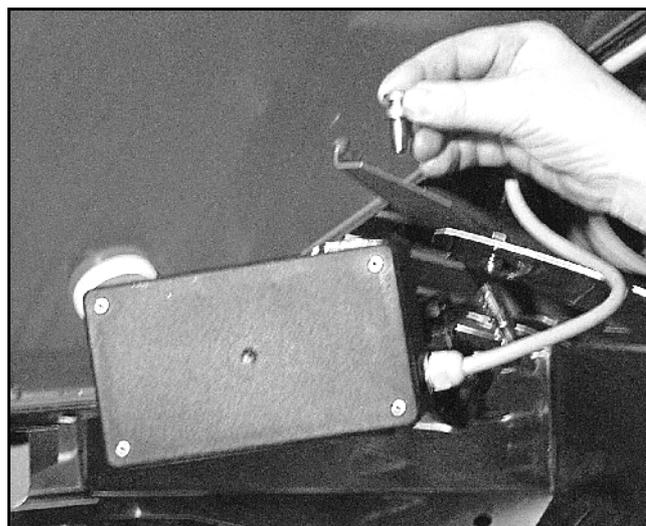

Fig. 6
- Pull off the two hinge pins (Fig. 6/1).